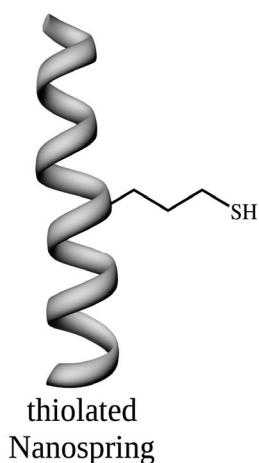

Figure 1. Free sulphydryl groups on the Nanospring surface.
1. Restore the sulfhydryl groups on the Nanospring surface (Fig 1) to reduced form by pumping 25 mL of the following buffer solution through the reactor: 50 mM Sodium Borate, 50 mM DTT, pH 8.5 (suggested flow rate: 0.5 mL/min).